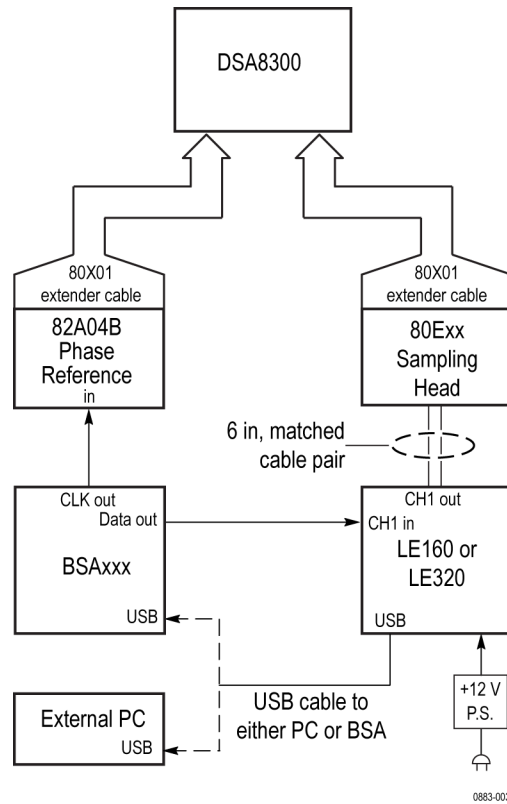

Figure 1: Functional check equipment setup
Verify that the equipment is set up properly as shown in the previous diagram *Figure 1: Functional check equipment setup* on page 9.
1. Ensure that the instruments are connected and set up. (See Figure 1: Functional check equipment setup.)